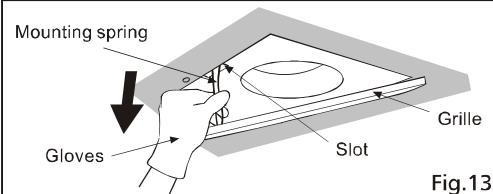
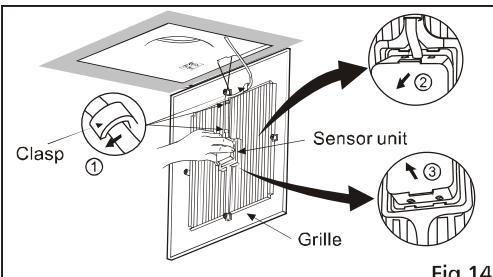

Fig.13
Fig.14
1. Remove grille pull down one mounting spring (no sensor lead passed). Remove sensor unit then pull down the other mounting spring. (Squeeze mounting spring and pull down carefully). (Fig.13, Fig.14)